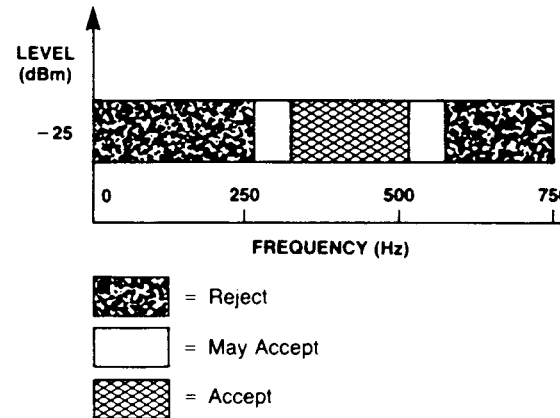

Figure 6. Call Progress Response
A Call Progress (CP) Mode can be selected allowing the detection of various tones which identify the progress of a telephone call on the network. The Call Progress tone input and DTMF input are common, however, call progress tones can only be detected when the CP Mode has been selected. DTMF signals cannot be detected if the CP Mode has been selected (see Table 5). Figure 6 indicates the useful detect bandwidth of the Call Progress filter. Frequencies presented to the input (IN+ and IN-) which are within the 'accept' bandwidth limits of the filter are hard-limited by a high-gain comparator with the  $\overline{\text{IRQ/CP}}$  pin serving as the output. The square wave output obtained from the schmitt trigger can be analyzed by a microprocessor or counter arrangement to determine the nature of the Call Progress tone being detected. Frequencies which are in the 'reject' area will not be detected, and consequently there will be no activity on  $\overline{\text{IRQ/CP}}$  as a result of these frequencies.